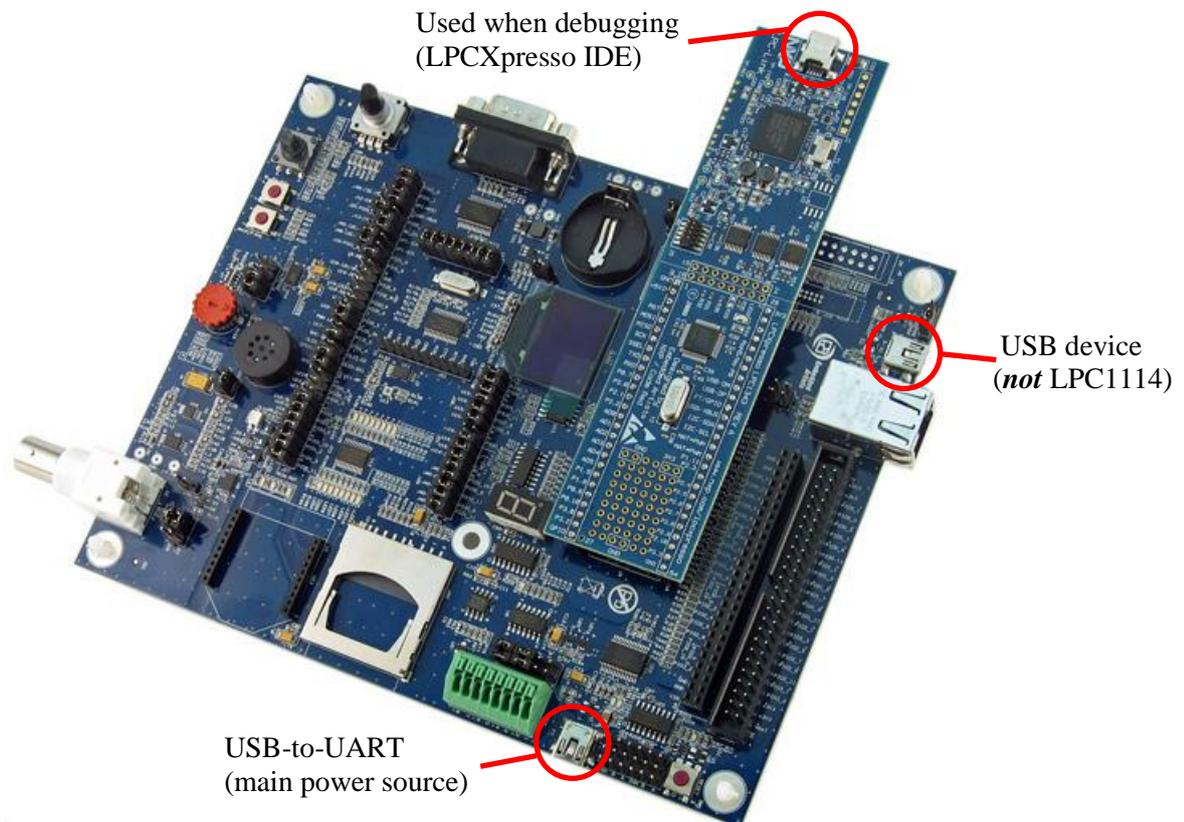

Figure 3 – Base Board with a mounted LPCXpresso LPC1343 board
There are three USB interfaces in total when the *LPCXpresso LPC1343/LPC1114 board* is mounted on the *LPCXpresso Base Board*. Technically any of all three can be used to power the system, but the main power source is however the USB-to-UART bridge. See Figure 3. Section 3.4 describes how to install necessary drivers for the USB-to-UART bridge.
1. Make sure you have connected a USB cable (mini-B to A) between your computer and the LPCXpresso LPC1343/LPC1114 board, see Figure 3 (USB interface 2).